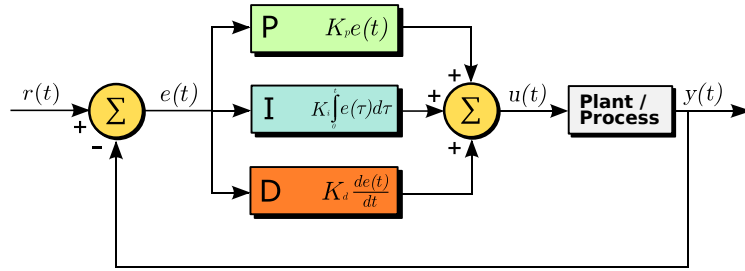

Figure 4: PID controller (source: wikipedia)
velocity of the robot, the simple controller of the first lab is not good enough. The gold standard in control to solve this problem is the PID (proportional–integral–derivative) controller, see figure 4.
For this part of the lab you will need to use two PID loops, one for controlling the power given to the left wheel and the other one for the right wheel. The PID controller is already implemented as part of the standard distribution of *March*, it can be found in the *march_control* library. It has a single output, which is the update $u(t)$ in figure 4. It takes four inputs:
- *control* (*std_msgs/float64*) a number which correspond to the target velocity ($r(t)$ in figure 4)
- *observation* (*std_msgs/float64*) a number which correspond to the odometry value ($y(t)$ in figure 4)